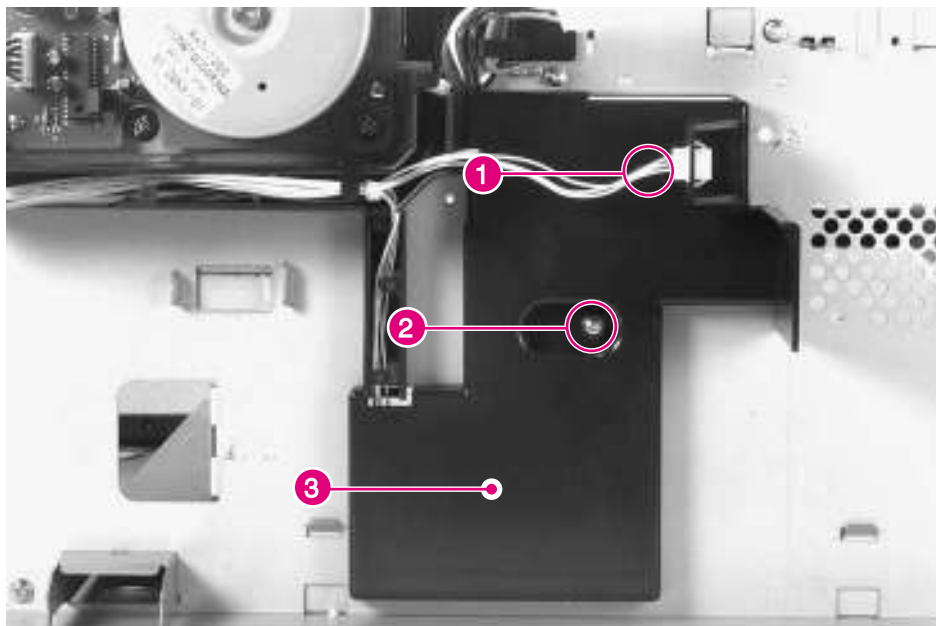

Figure 6-48 Paper Size PCA (1 of 3)
- 2 Unplug the fan cable from the left side of the connector (figure 6-48, callout 1), remove 1 screw (figure 6-48, callout 2), and remove the plastic shield (figure 6-48, callout 3).